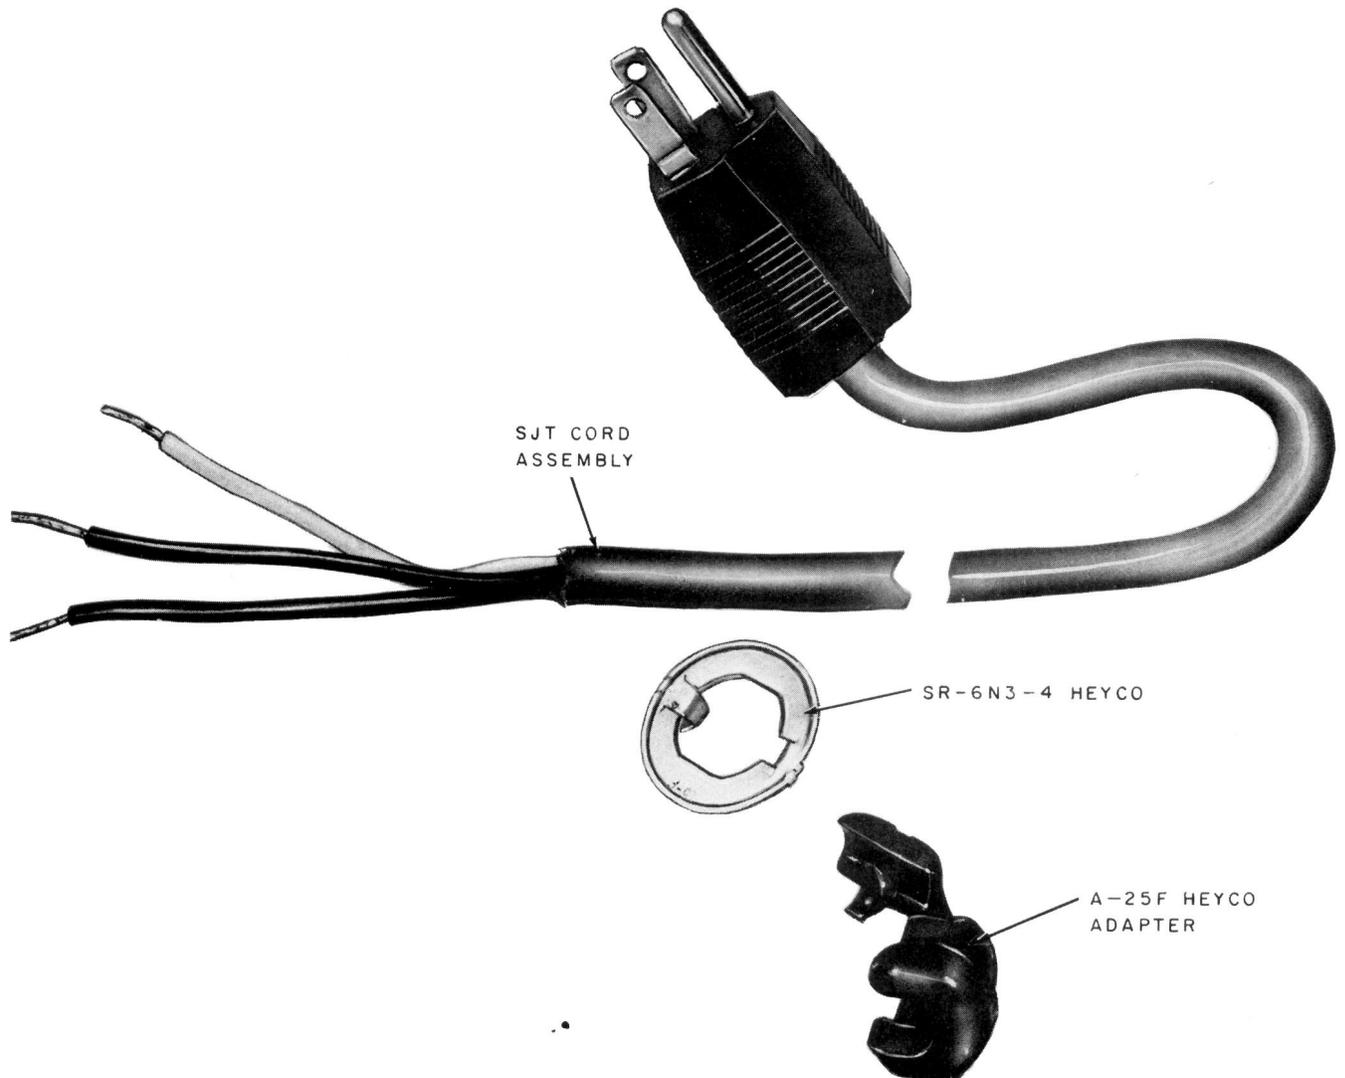

Fig. 7—KS-19261, List 10 Light Control Kit
2.06 The List 10 kit (Fig. 7) is used when underground wiring is involved with the KS-20842 SENTRY public telephone enclosure.